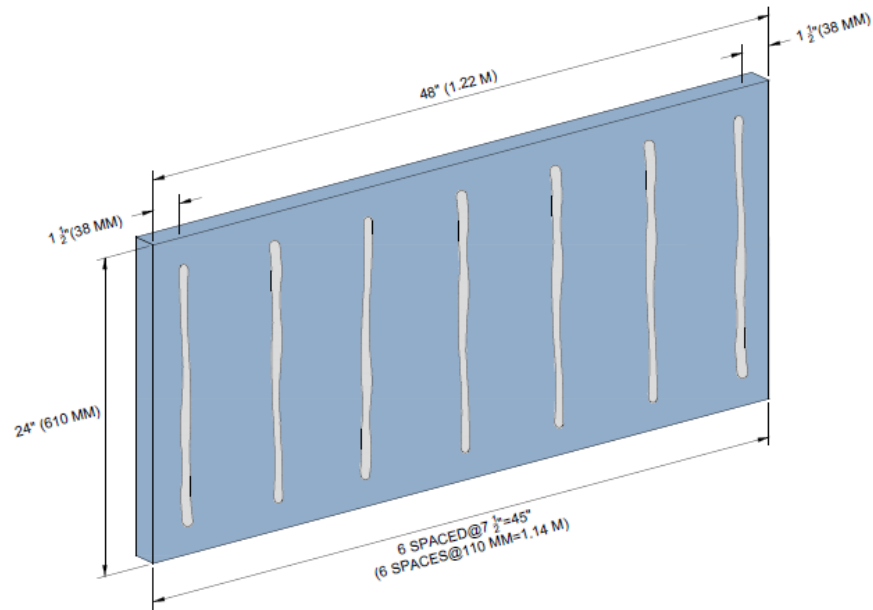

Figure 18
- a) Apply in vertical ribbons spaced 7 1/2" (191 mm) apart, starting 1 1/2:" (38 mm) from the edge of the board, as shown in Figure 18.